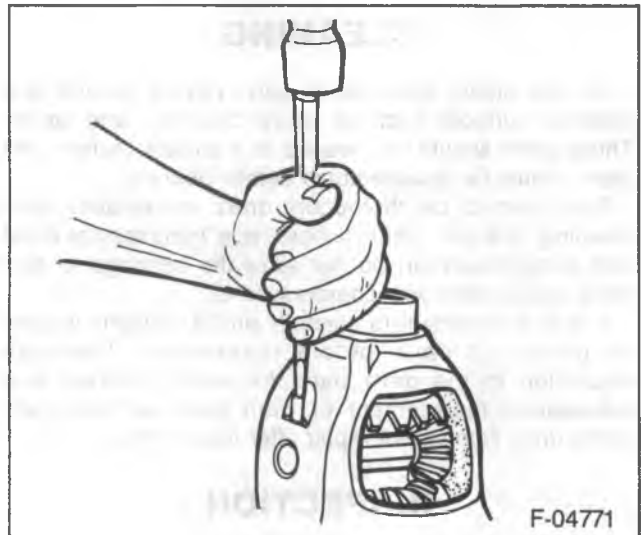
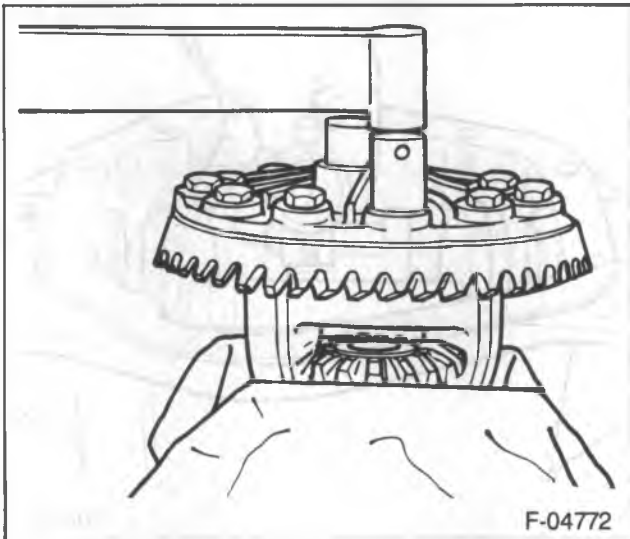

Figure 19—Installing the Lock Pin
Figure 20—Installing the Ring Gear Bolts
4. Pinion gears (24) to the differential without the thrust washers (26).
5. New pinion thrust washers (26).
6. Pinion shaft (28).
7. Lock pin (29) (figure 19).
8. Ring gear (2) to the differential case (22).
9. New ring gear bolts (23) (figure 20).